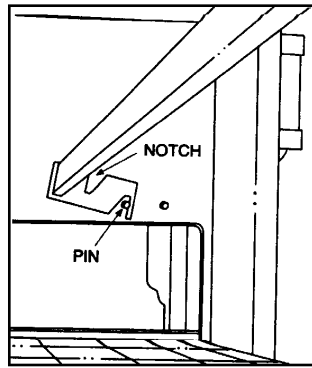

Figure 1
2. Before installing the retaining brackets in the oven(s), be sure all of the packing material is removed from the plenum shroud. Install the finger retaining brackets by placing them upside down and hooking the retaining pin as shown. (See **Figure 1.**)